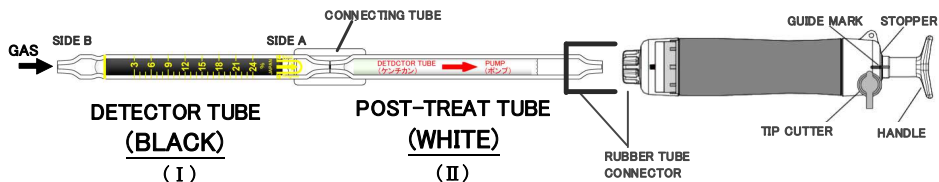

Fig.1
- ① Break both ends of the post-treat tube (II) and an end of the side A of the detector tube (I), and connect each end of the detector tube (I) and post-treat tube (II) with connecting tube as shown in Fig.1. (Arrow mark on the detector tube and post-treat tube shall point to the pump.)
pump securely as shown in Fig.1. (Arrow mark shall point to the pump.)